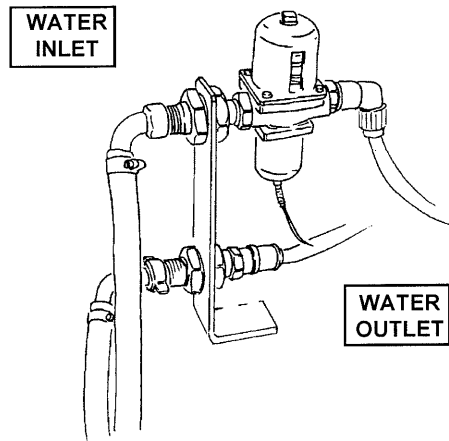

Fig. 2
- 2) Connect fitting marked "WATER IN" to the cold water supply. Connect the fitting marked "WATER OUT" to a drain (see Fig.2).